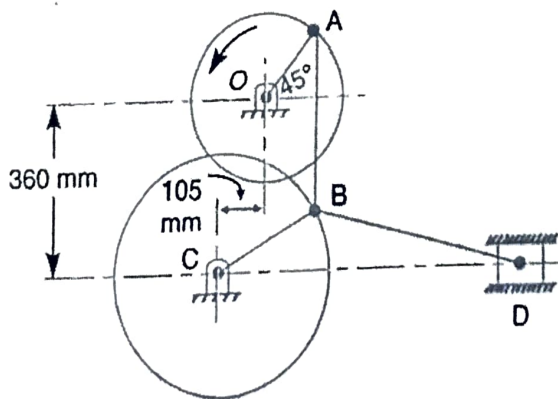

Fig. 1
2. (A) The mechanism, as shown in Fig. 1 the slider D is constrained to move on a horizontal path. The crank OA is rotating in the counter clockwise direction at a speed of 180 r.p.m. The dimensions of various links are as follows: OA = 180 mm; CB = 240 mm; AB = 360 mm; and BD = 540 mm. For the given configuration, find: